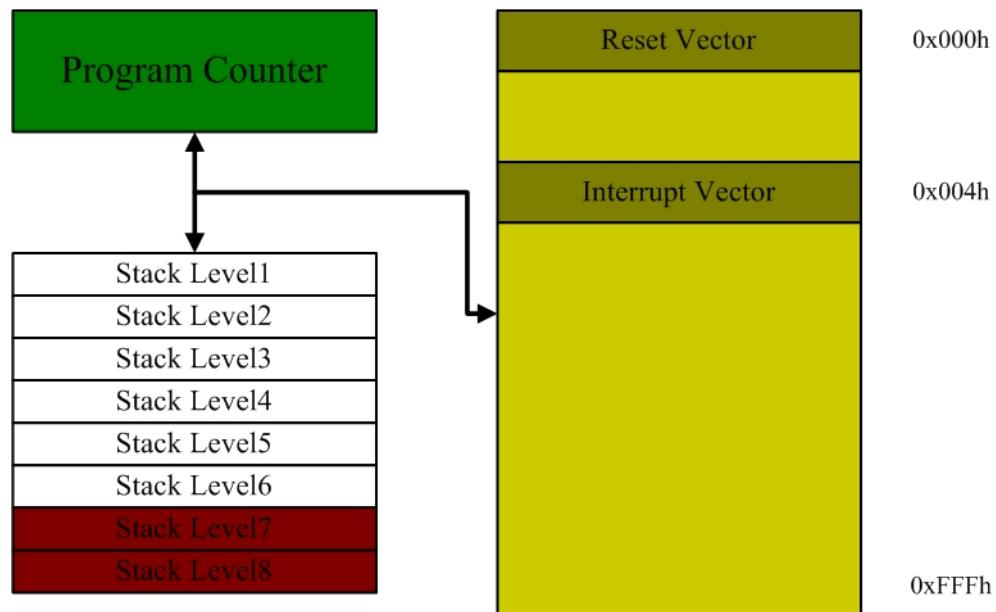

Figure 2-3 CSU1221 program memory structure
1. CSU1221 has a 12bits Program Counter which is capable of addressing a $4k \times 16$ bits program memory space. The Start up/Reset Vector is at 0x000. When CSU1221 is started or its program is reset, the Program Counter will point to Reset Vector. The Interrupt Vector is at 0x004. No matter what ISR is processed , the Program Counter will point to Interrupt Vector. Please see Figure 2-3.